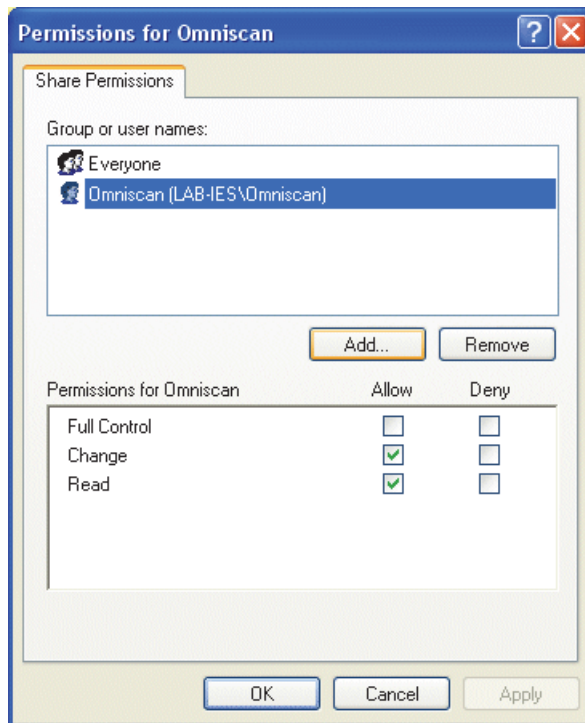

Figure 14-10 The Permissions for Omniscan dialog box (Windows XP)
6. In the **Omniscan Properties** dialog box, click the **Permissions** button. The **Permissions for Omniscan** dialog box appears (see Figure 14-10 on page 292).